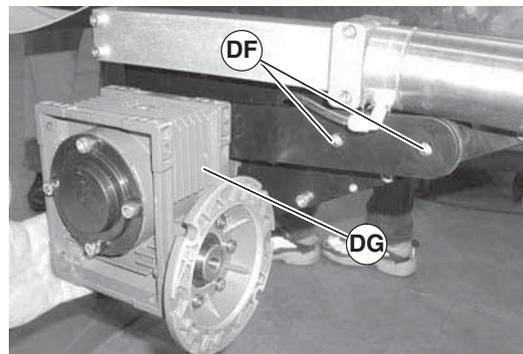
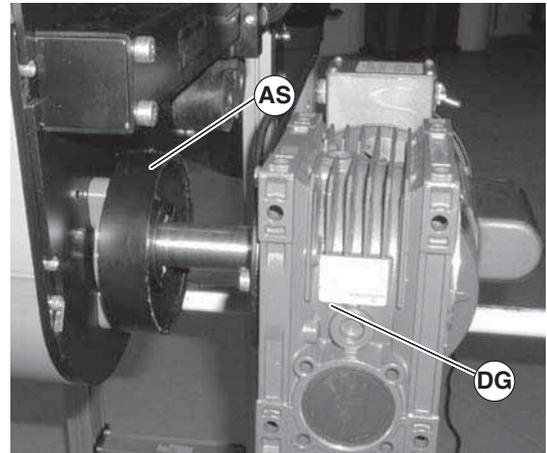

Figure 104
Figure 108
2. Remove screws (Figure 104, item DF) and remove gearmotor (DG) (Gearhead shown with motor removed for clarity, motor can remain attached to gearhead).
9. Reinstall spacer ring (Figure 108, item AS) and gearmotor (DG). Tighten screws (Figure 104, item DF) to 150 in-lbs (17 N-m).